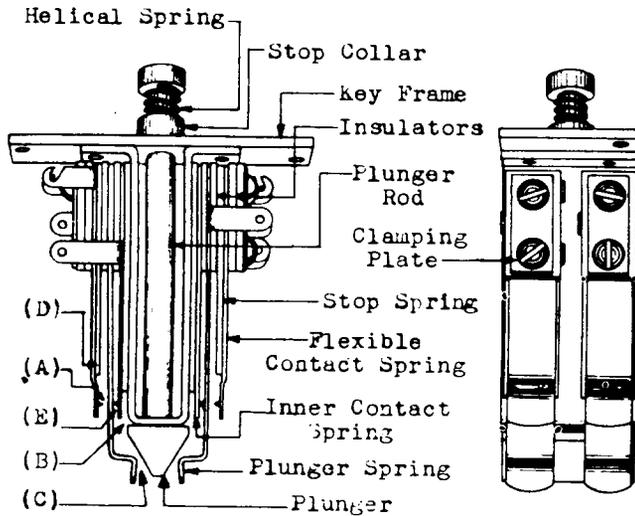

Fig. 4 - 392A Key
***2.05 Contact Separation** — Fig. 4(A): There shall be a separation between all open contacts of:
(a) Fig. 4(B): There shall be a clearance between springs designed never to make contact and between any spring and the frame, whether in the operated or unoperated position of the key of:
(b) Fig. 4(C): The plunger springs shall rest against the plunger except in the case of keys having normally closed inner contacts, in which case the separation between the plunger and the plunger springs shall be:
***2.07 Contact Pressure** — Fig. 4(A) and (E)
***2.08 Contact Follow** — Fig. 4(A): There shall be a follow on all normally open contacts of:
Fig. 4(D): With the key in its normal position the flexible spring shall rest at least on the end of the stop spring that is nearest the contact on the flexible spring.